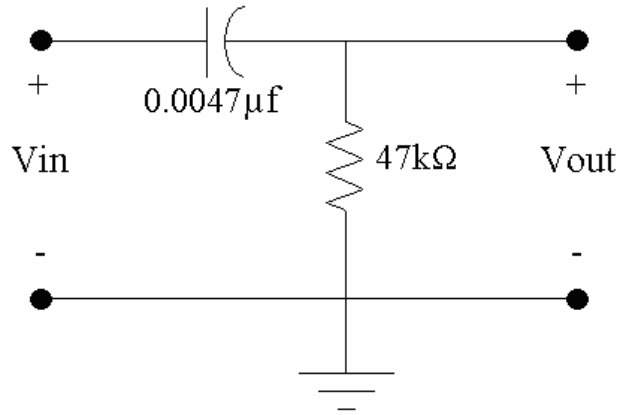

Figure 5. High pass RC filter.
The circuit for the high pass filter that you will study is shown in Figure 5. Its transfer function is
- Obtain Eqs. (9) and (10) from Eq. (8). Using the values for R and C from Figure 5, calculate the expected characteristic frequency  $\omega_o$  for the high pass filter.
- Obtain Eqs. (9) and (10) from Eq. (8). Using the values for R and C from Figure 5, calculate the expected characteristic frequency for the high pass filter.